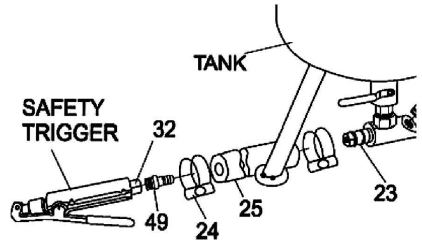

Figure 1
1. Follow the diagram at right to install the various components (Figure 1).
2. Slide the two hose clamps (24) over each end of the Abrasive Hose (25) surface.
3. Press one end of the hose, over the nipple on the Abrasive outlet pipe (23). And the other end over the
4. Abrasive Safety Trigger Hose Adapter (49). Both hose ends should be firmly seated on the nipples. Slide the hose clamps along the hose to each nipple and tighten the clamps very firmly. They have to resist the force of 60 to 125 PSI.